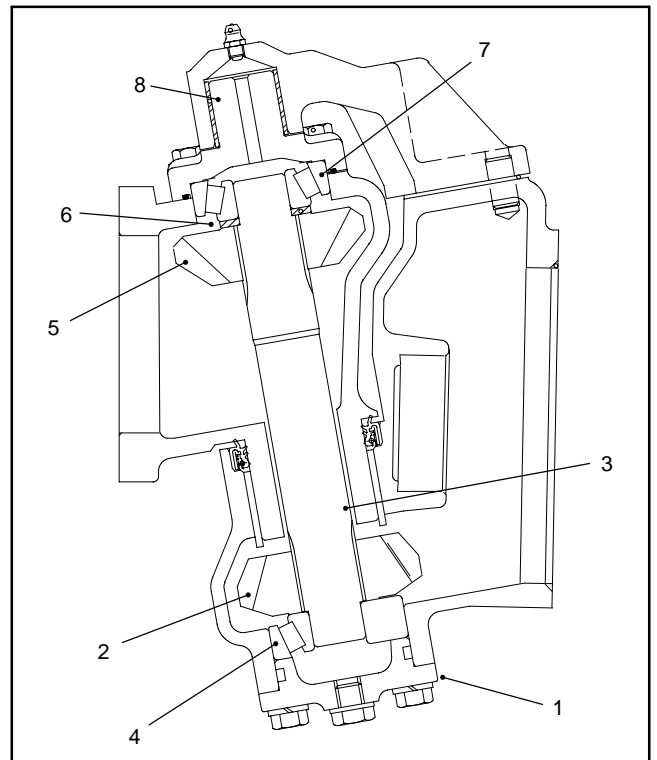

Figure 21
2. Install the lower bevel gear and bevel gear shaft in the axle case cover. Coat a new O-ring with grease and install the axle case cover (Fig. 21). Tighten cover screws from **17 to 20 ft-lb (23 to 27 N-m)**.
3. Slide the bevel gear case over the bevel gear shaft and install the bevel gear and collar. Make sure the bevel gear shaft is completely seated in the upper and lower bearings (Fig. 21).